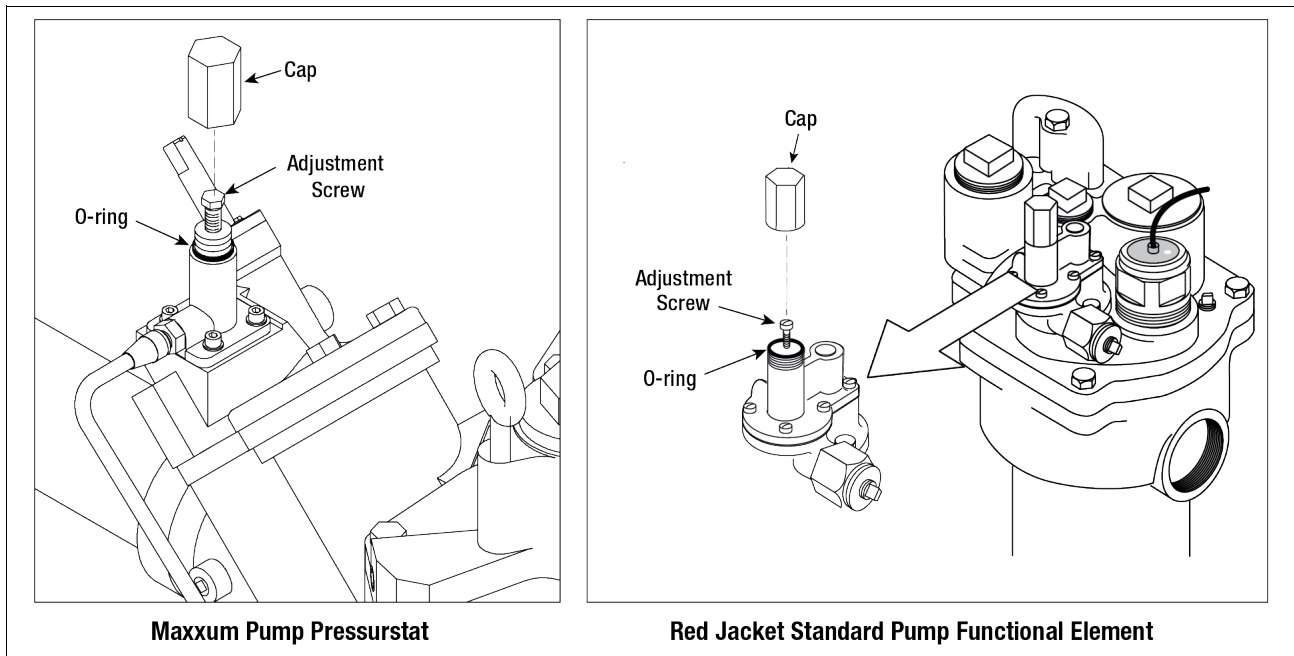

Figure 28. Functional Element (Red Jacket Standard Pump Shown)
1. Unscrew the protective cap from the adjustment screw (Figure 28).